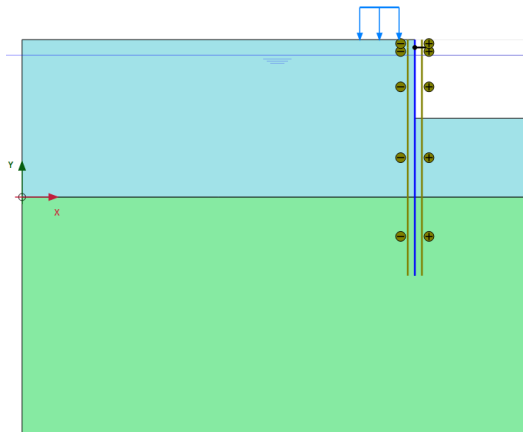

Figure 2.11 Model view for the second excavation phase
- Deactivate the second cluster from the top on the right side of the mesh. It should be the topmost active cluster (Figure 2.11).